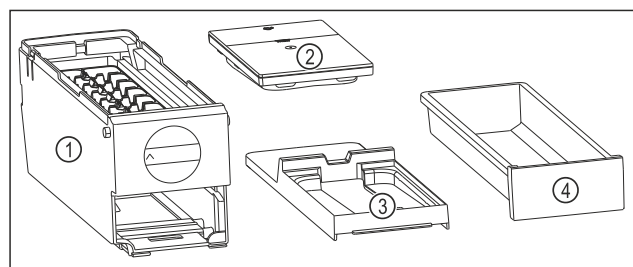

Fig. 119 Components of the EasyTwist-Ice
- ▶ EasyTwist-Ice is dismantled into four parts. (see Fig. 119)
- ▶ Only dismantle the EasyTwist-Ice into the components shown. (see Fig. 119)
- ▶ Clean the EasyTwist-Ice body Fig. 119 (1) as a whole.